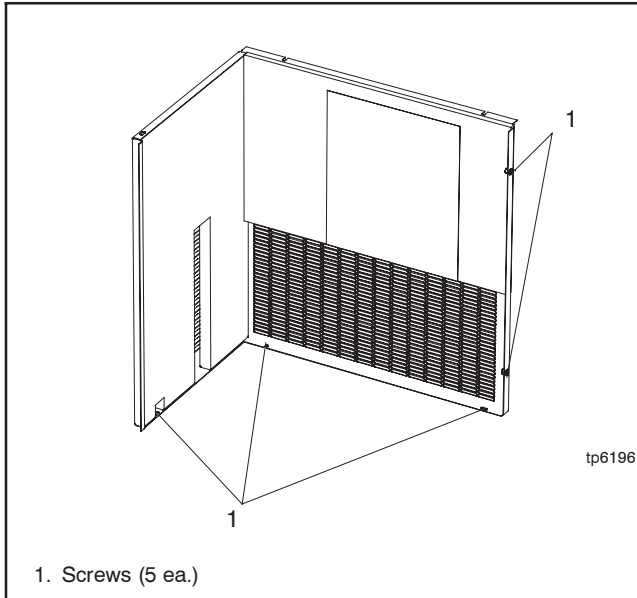

Figure 7-3 Rear Panel Mounting Screw Locations (viewed from inside the enclosure)
- h. From the inside of the enclosure, remove 5 screws to remove the rear (exhaust end) panel. See Figure 7-3.